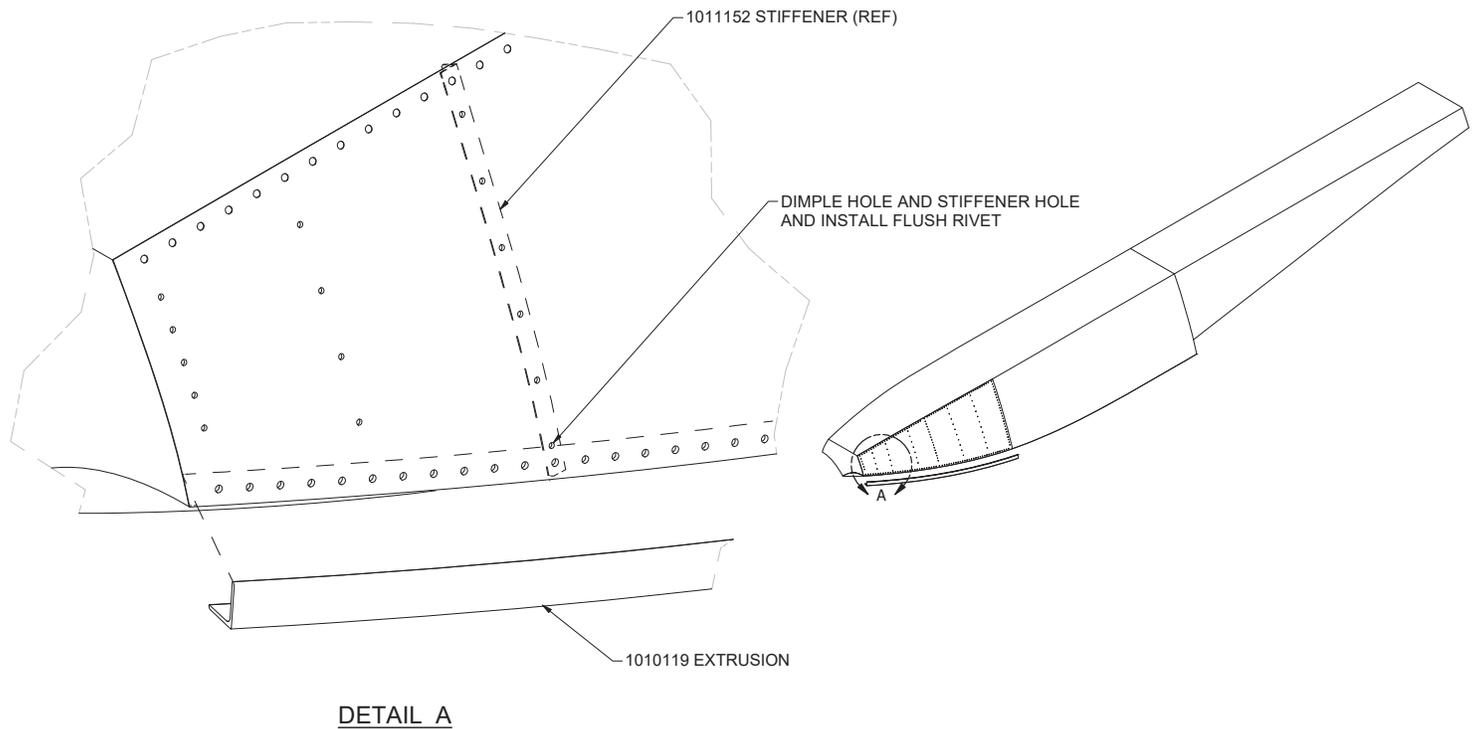

Figure 1 - Chine Extrusion
2. Install new chine extrusion while being careful not to back drill the rivet location indicated in Figure 1. The new material has longer profile legs which only partially cover this location.